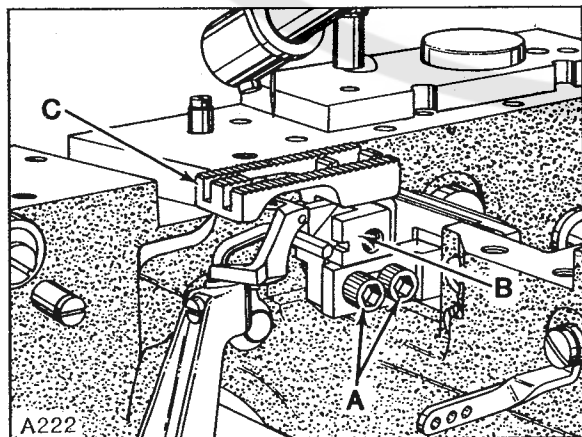
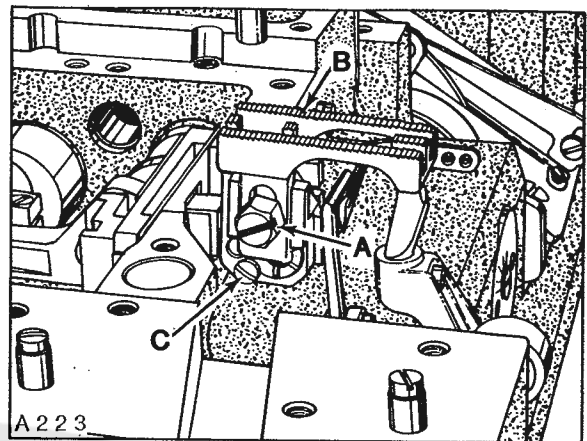
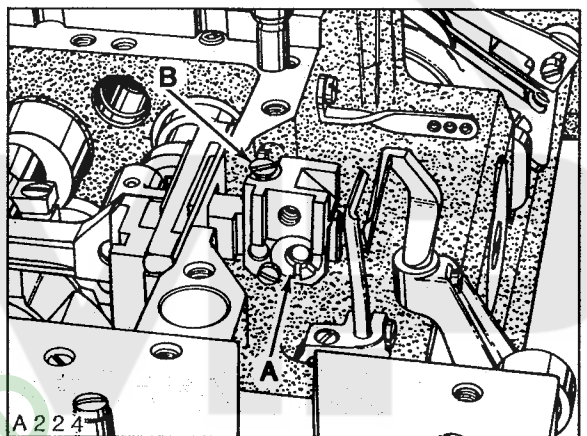
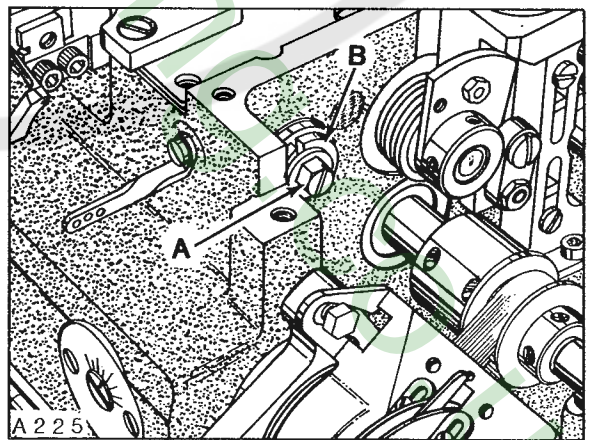

Fig. 16
Fig. 17
Fig. 18
Fig. 19
Front to rear adjustments can be made by loosening two screws (A, Fig. 16), reposition feed dog holder (B) as required. Press down on front of feed dog (C) while tightening screws (A). Feed dog can be leveled or tilted by removing throat plate, loosen two screws (A, Fig. 16) and screw (A, Fig. 17) so feed dog (B) can be raised enough to loosen locking screw (C).
Turn feed tilting cam (A, Fig. 18) as required to level feed dog as it comes out of throat plate. Retighten screw (C, Fig. 17) and screws (A, Fig. 16) while pressing down on front end of feed dog. Adjust feed dog height supporting screw (B, Fig. 18) to support feed dog after specified feed dog height has been determined by checking with feed dog and throat plate in place. When adjustments are completed, tighten screw (A, Fig. 17) while pressing down in front of feed dog. More or less FEED LIFT can be acquired by loosening screw (A, Fig. 19) and turning adjusting dial (B) towards the operator to increase feed lift. Turning away from operator decreases. Retighten screw (A). Turn handwheel in operating direction to ensure that feed dog does not strike throat plate or looper/s, throughout its path of travel.